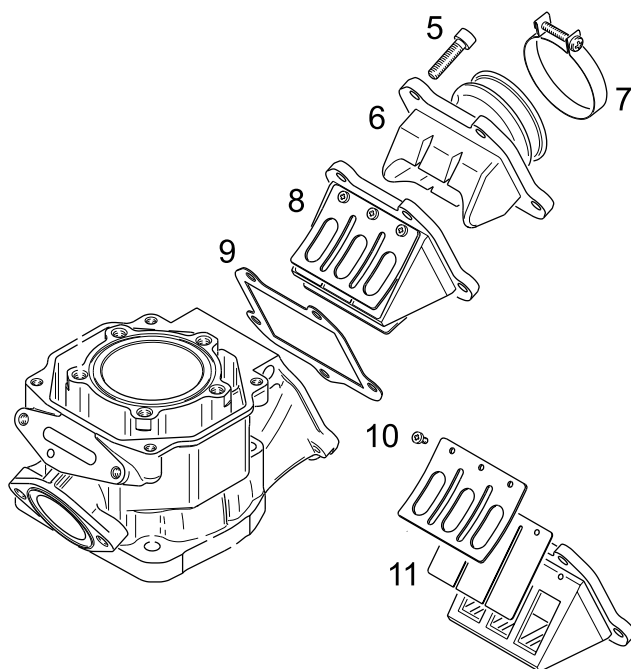

Figure 43
- ✓ Inspect the carburetor flange (6) for cracks, porosity or swelling.(see fig 43)
- ⇒ Fit a new gasket (9), the reed valve assy (8) carburetor flange (6) and hose clamp (7), with the Allen screws (5) on cylinder. Tighten the screws to the specified torque M15 (see fig 43)